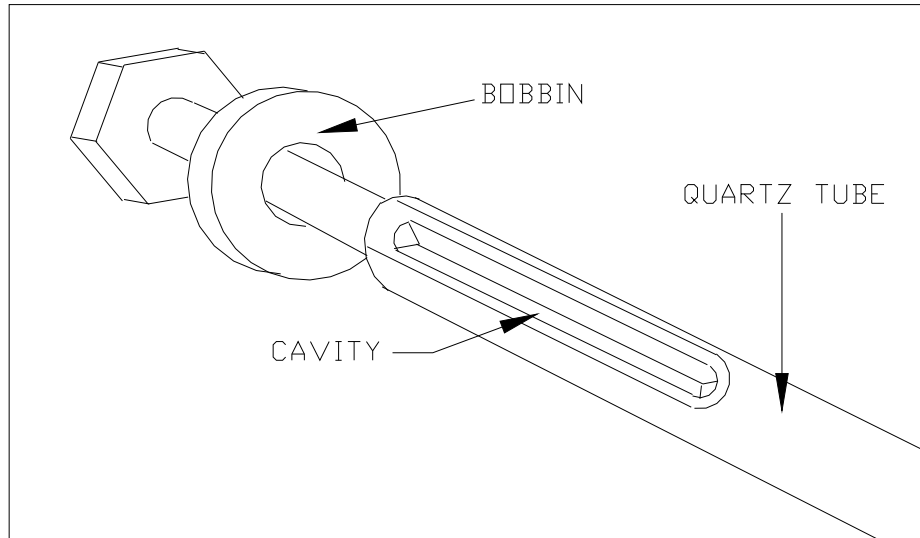

Figure 3-5. Quartz Tube Cavity for Thermocouple
10. In preparation for installing the new thermocouple, look into the end of the Heater Block. You will see that there is an indentation (cavity) in the fat part of the quartz tube. This is where the thermocouple you are installing will reside. Refer to Figure 3-5.